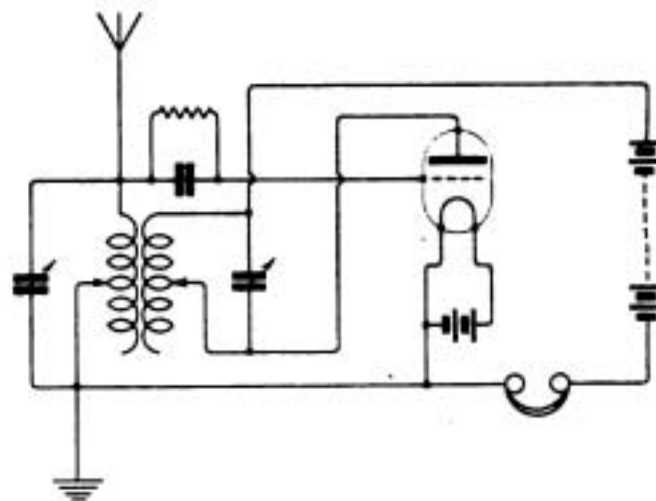

Fig. 2.
(1) The self capacity of a single layer coil is not inversely proportional to its turns.
(2) and (3) The capacity of a multilayer coil of few layers (or part of a coil of many layers) is often greater than the capacity of the whole coil.
(4) The whole subject is very complex and needs very difficult mathematics for even an approximate treatment. The greater part of the known facts are of experimental origin.
A.S.O.M. (Bowes Park) asks (1) The best single valve circuit for general purposes. (2) If a circuit (Fig. 2) is suitable. (3) If the Hague
" DOUBTFULS " (St. Anne's). The position of the A.T.C. shown in your Fig. 1 is quite wrong for at least two reasons, which we will leave you to argue further over. That shown in Fig. 2 is correct. The inductance arrangement of Fig. 1 is best, particularly for short wavelengths. That of Fig. 2 is not bad for long wavelengths, but is never as good as 1.